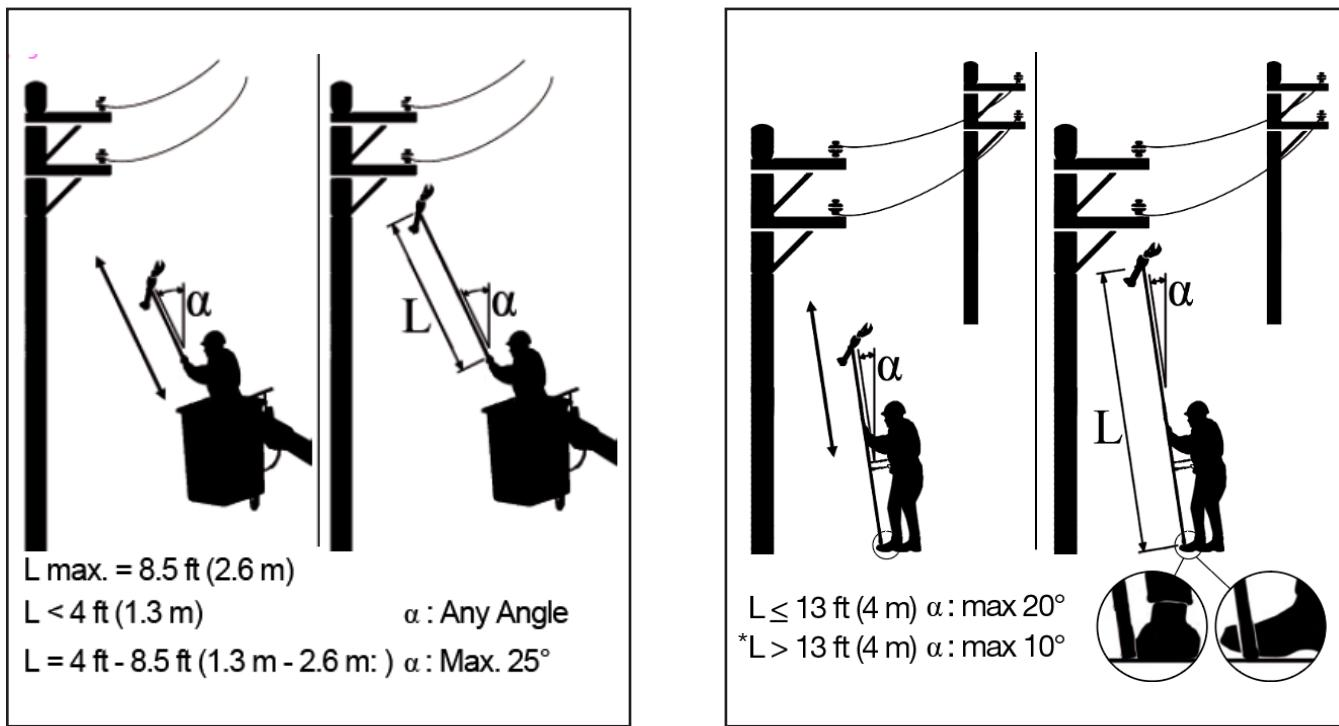

Figure 16
3. Brace the end of the hot stick with a foot or, if working from a basket, the basket wall to reduce the risk of twisting or losing control of the tool. Extend the hot stick and keep the hot stick angled slightly in front of you (Fig. 16). Angling the hot stick with the tool too far from the body increases the risk loosing control and dropping the tool. Keep any bystanders away from the operator at least the length of the extended hot stick to reduce the risk of the tool end falling and causing injury. Special training is needed if using a hot stick greater than 8.5 ft. (2.6 m) from the ground.